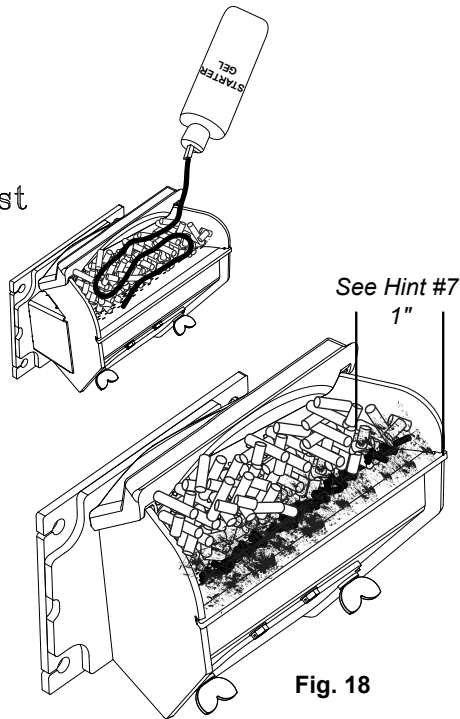

Fig. 18
7. Allow the unit to burn for about 30 minutes and check ash on front of burn pot. Fig. 18. If the ash line is larger than 1", turn the feed adjuster from #4 to #5. Allow another 30 minutes of burn time and check again. If, at #6 setting, a 1" or less ash bed is not obtainable, it is not a problem. The 1" ash bed is only a maximum burn rate and at most normal settings the ash bed will be larger.